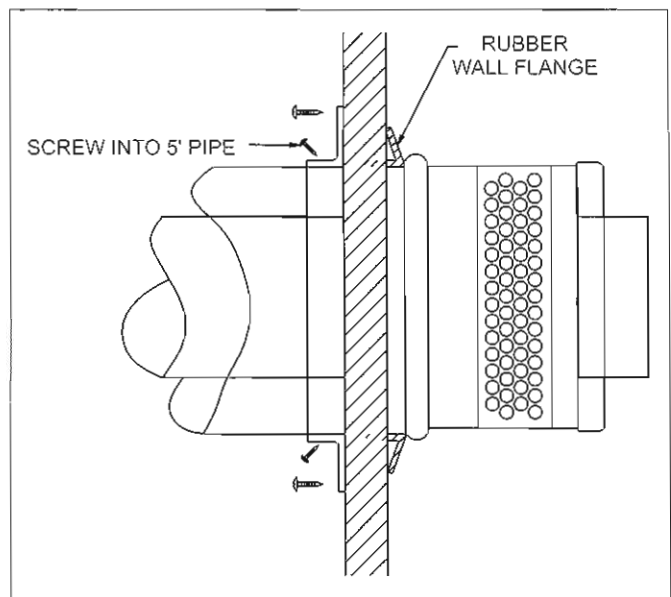

Figure 3. Terminal mounting.
Center 5" pipe in 5 3/4" hole and slide the 5" wall flange to the wall and secure to the wall with appropriate hardware. Check and adjust the vertical vent for plumb. Secure the 5" pipe through collar on wall flange using a (supplied) self drilling screw (see Figure 3). Secure 5" vent to the collar on boiler with (3) self-drilling screws to complete installation.